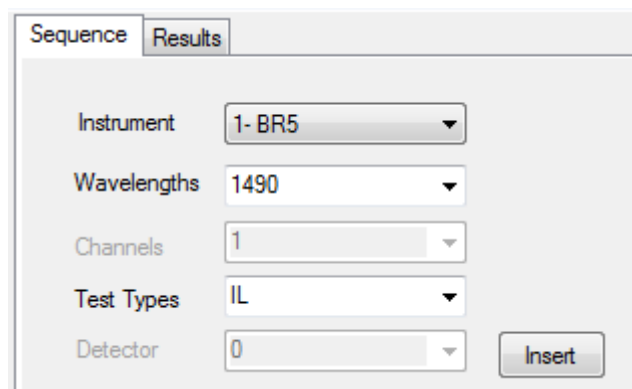

Figure 2.5: An example of a BR5 insertion loss (IL) test at 1490nm.
- Select the Sequence tab on the main screen so that the desired test conditions can be entered (Fig. 2.5 and Fig. 2.6).
- Select the desired test parameters such as wavelength, channel and test type from the lists below. The three available test types are insertion loss (IL), backreflection (BR) and power (PWR).